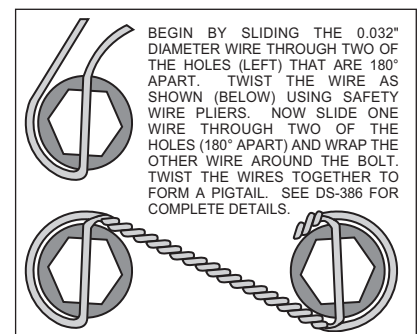

Figure 3. Safety Wire Diagram
- Identify the left and right caliper mounting brackets (1). Both brackets will be offset to the rear of the vehicle with the threaded inserts and the beveled bolt holes facing the outside of the vehicle. Apply red *Loctite*® 271 to bolt threads (2 and 5) before assembly of the caliper bracket (1) to backing plate face of spindle. Insert the two upper mounting bolts (2) and the lower mounting bolt (5) through the caliper mounting bracket (1). Place one upper mounting bracket spacer (3) over each of the upper mounting bolts (2). Slide a lower mounting bracket spacer (6) over the lower mounting bolt (5). Position the caliper mounting bracket (1) onto the spindle, slipping each of the three mounting bolts (2 and 5) through the spindle holes. The lower ball joint may have moved when the original bolts were removed. Re-alignment may be necessary for the lower bolt (5) to slide through. Install two jam nuts (4) on the upper mounting bolts (2) and finger tighten. Install one lock nut (7) on the lower mounting bolt (5) and finger tighten. Torque two bolts (2) to 47 ft-lb. Torque bolt (5) to 65 ft-lb. **NOTE:** Be sure the heads of the caliper bracket (1) insert nuts are facing outward toward the wheel.
- Install five new wheel studs (8) into the hub (9). Torque to 77 ft-lb. **NOTE:** There are two five lug patterns in the hub (5 x 4.00 and 5 x 4.50). Make sure of the correct hole pattern for the correct wheel application before installing studs into hub.
- Pack the large inner bearing cone (10) with high temperature disc brake bearing grease (available from your local auto parts store) and install into the backside of the hub (9). Install the grease seal (11) by pressing into the backside of the hub (9).
- Attach rotor adapter (12) to rotor (13) using six bolts (14). Torque bolts (14) to 180 in-lb. Safety wire bolts (14) using standard 0.032 inch diameter stainless steel safety wire as shown in Figure 3. Please refer to Wilwood's data sheet DS-386 (available at www.wilwood.com/Pdf/DataSheets/ds386.pdf) for complete safety wire installation instructions. **NOTE:** The flat side of the rotor (13) lugs face toward the rotor adapter (12) with the dished side of the rotor adapter (12) facing away from the rotor (13).